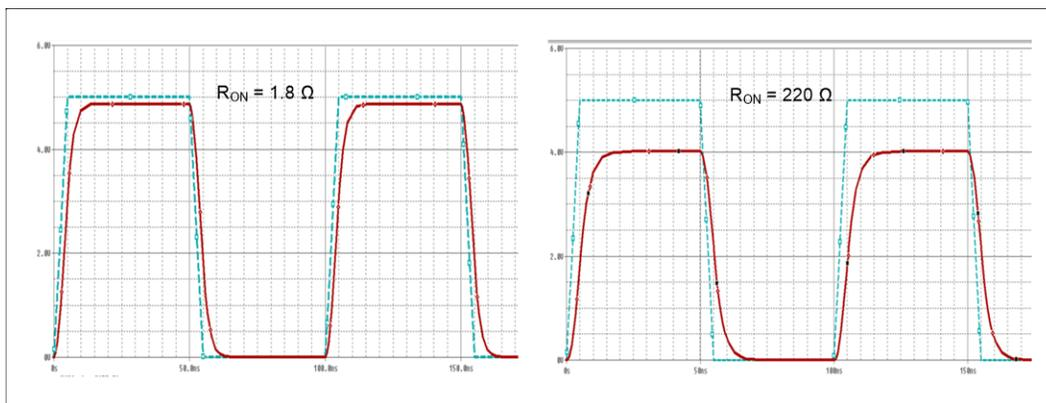

Figure 3-1. Comparison of On-Resistance Impact on Signal
- On-resistance (R_{ON}) – This is the resistance across the signal switch when the switch is turned on. A lower R_{ON} device, such as the TMUX1136, is especially useful in systems where the signal will not be amplified since the voltage will not drop across the signal switch and a close-to-original sensor input signal will be retained. If the design calls for an op amp or buffer in front of the built-in ADC of the MCU, a lower R_{ON} will decrease the gain error. Gain errors are heavily dependent on the load but minimizing the R_{ON} can still be beneficial. Furthermore, larger R_{ON} values create an offset voltage error when leakage current flows through the multiplexer. Simulations in Figure 3-1 illustrate the benefits of a low R_{ON} , modeling the TMUX1136 on the left. Here a 10-MHz signal is passed, with a 1-k Ω , 5-pF load. The 1.8- Ω R_{ON} of the TMUX1136 allows for proper signal pass-through and ensures that the signal integrity is maintained closely. An increase in the propagation delay due to a higher RC time constant is observed along with a decay in the overall signal.
Figure 3-1 illustrates that a lower on-resistance (TMUX1136 on left) enables lower distortion and errors in signal transmission.